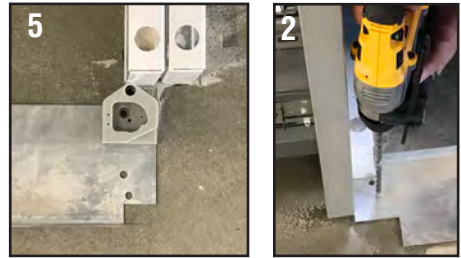

Figure 1: Steps 1-4
1. Mark the holes (10) for the door base plates in the door alignment guide as shown in Figure 1.